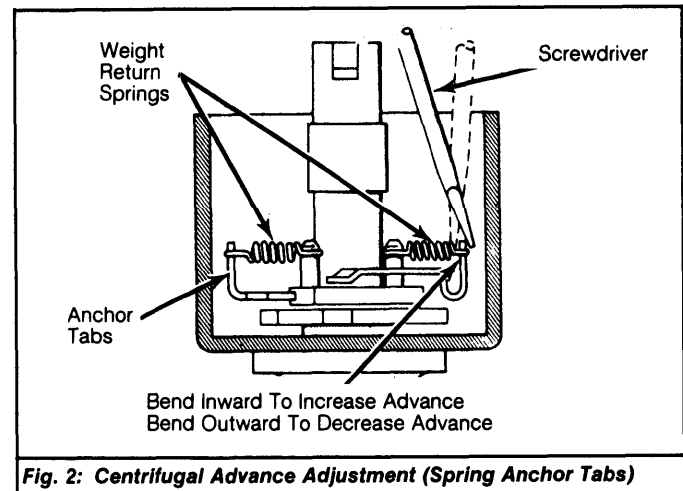

Fig. 2: Centrifugal Advance Adjustment (Spring Anchor Tabs)
3) If distributor does not have adjustable driving collar, adjustment may be made by bending spring anchor tabs to modify spring tension. See Fig. 2. To adjust for low speed operation, bend primary spring anchor tab outward to decrease advance, and inward to increase advance. For high speed operation, bend secondary spring anchor tab in or out to obtain specified settings.